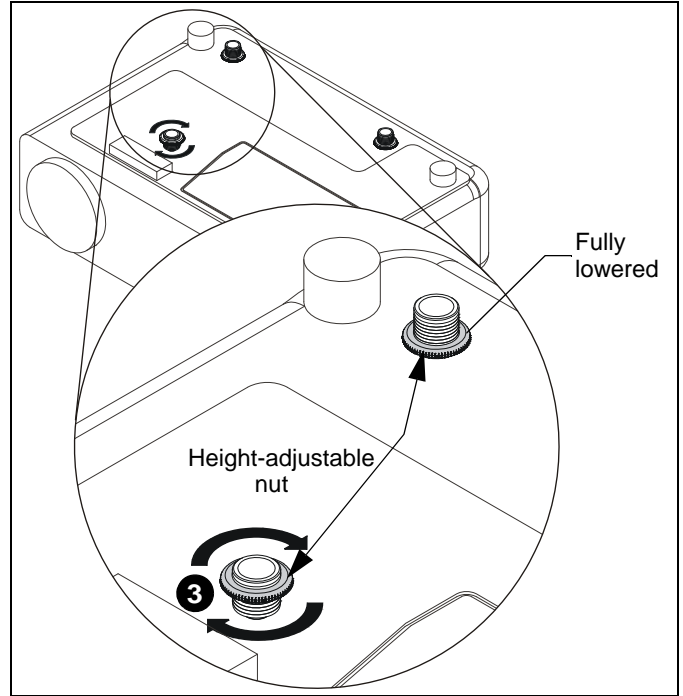

Figure 2
3. Adjust height-adjustable nuts (on screw adapters [AM]) to desired level. (See Figure 2)
NOTE: Height-adjustable nuts should be adjusted as low as possible while still allowing interface legs (Q) to clear elevated surfaces on the projector. (See Figure 2) Adjust height-adjustable nuts to the same level on all adapter screws to ensure a level mount.